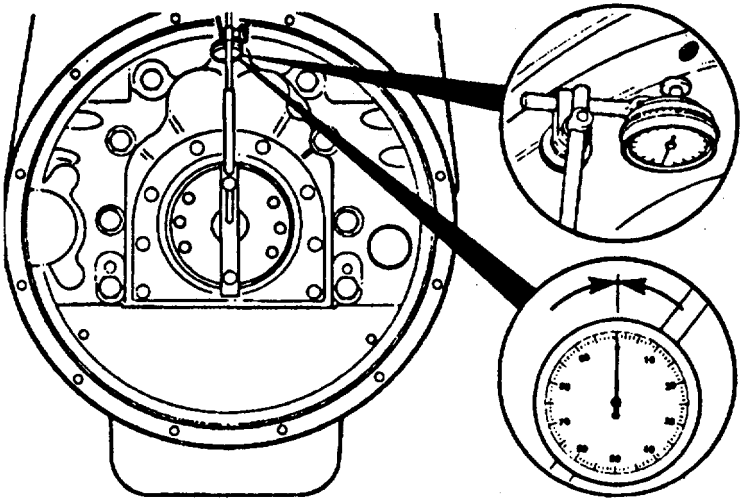

FIGURE 3-89. Attaching Dial Indicator to Crankshaft.
- (b) Use the dial gauge indicator and the dial gauge attachment to measure the bore alignment. Attach the dial indicator to the crankshaft as shown (FIGURE 3-89) .